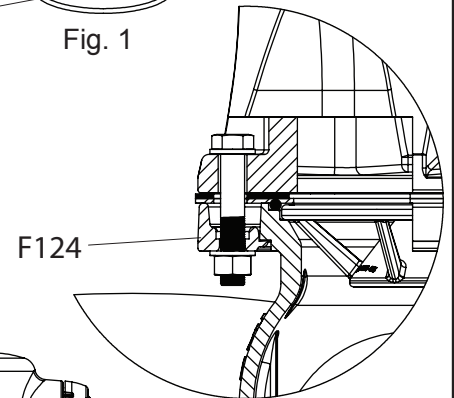
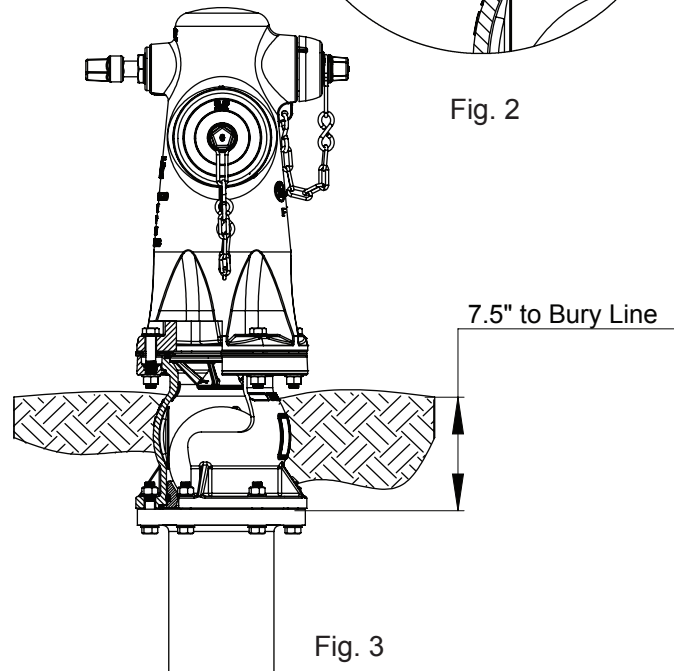

Fig. 2
Fig. 3
9. Carefully mount the Wet barrel assembly onto the FlowGuard II assembly with the Breakable Flange (F124) and mount with the mounting hardware as shown in Fig. 2 and Fig. 3.